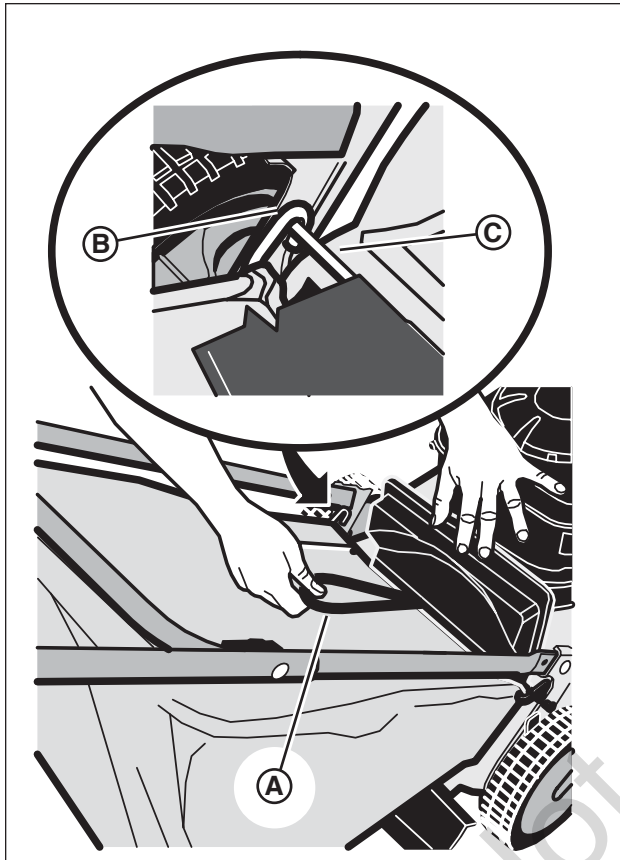

Figure 13: Installing the grass bag
3. Holding the grass bag handle (**A**, **Figure 13**), install the grass bag onto the mower, making sure that the grass bag hooks (**B**) are hooked onto the rear door pivot rod (**C**).